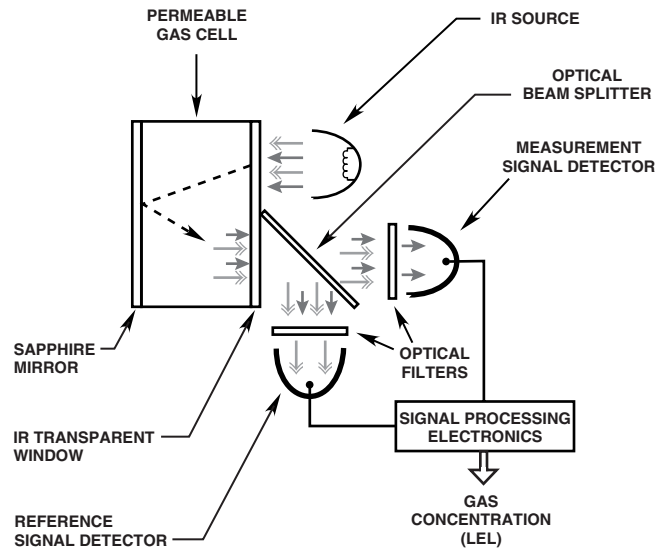

Figure 1—Measurement Scheme for Infrared Gas Detector
Flammable hydrocarbon gases diffuse through the weather baffle assembly into the internal measurement chamber, which is illuminated by an infrared (IR) source. As the IR passes through the gas within the chamber, certain IR wavelengths are absorbed by the gas, while other IR wavelengths are not. The amount of IR absorption is determined by the concentration of the hydrocarbon gas. A pair of optical detectors and associated electronics measure the absorption. The change in intensity of the absorbed light (active signal) is measured relative to the intensity of light at a non-absorbed wavelength (reference signal). See Figure 1. The microprocessor computes the gas concentration and converts the value into an analog signal, which is then communicated to external control and annunciation systems.